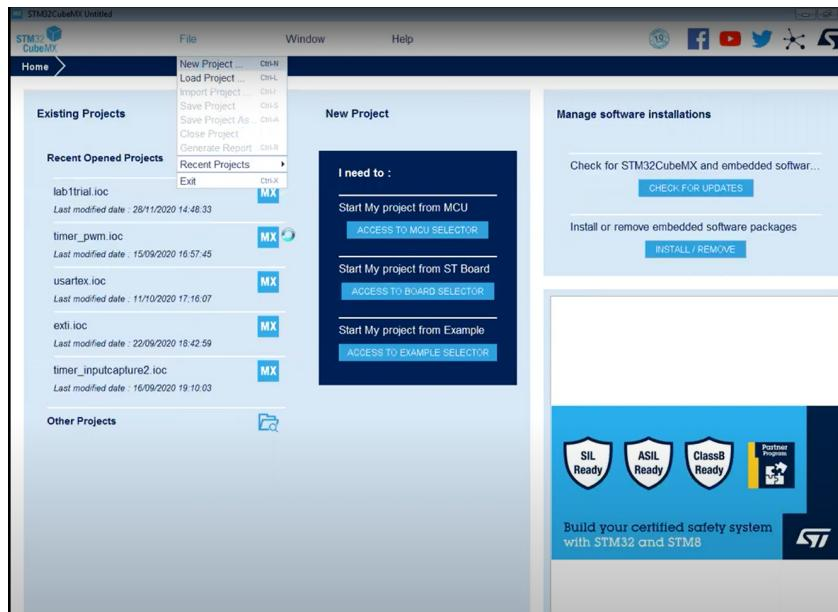

Figure 6
4. Now we can create a new project file to start programming. Select “New Project” from the File menu (Figure 6).